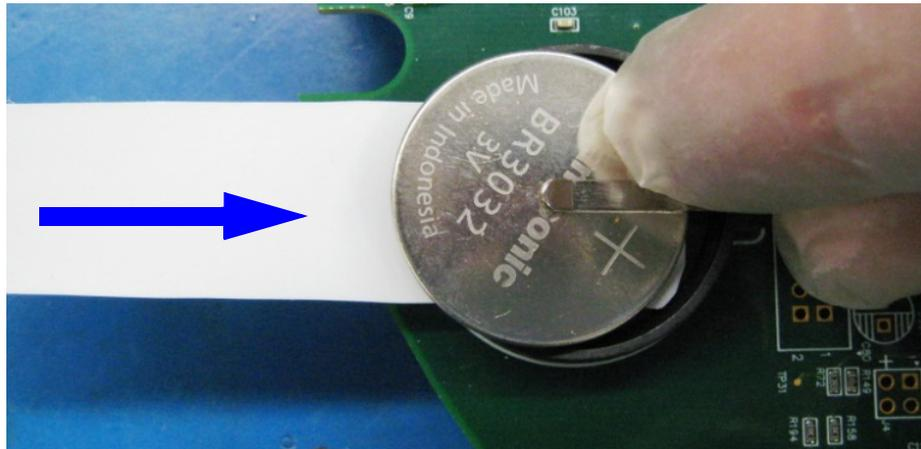

Figure 3.11: Positioning the Battery Insertion Tool
8. To remove the battery, (Manufacturer Part #: Panasonic Battery BR 3032 3V Lithium Coin Size Battery), first slide the battery insertion tool under the battery between the negative pole of the battery and the battery holder. See Figure 3.11.